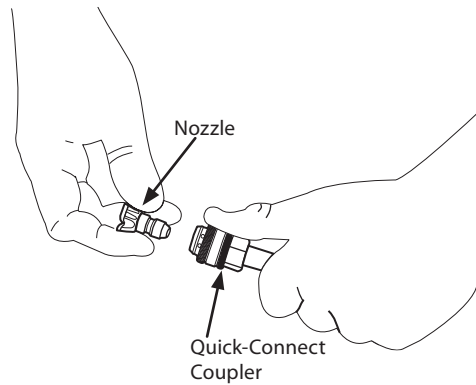

Figure 5-5
2. Release quick-connect coupler and twist nozzle to make sure it is secure in coupler. See Figure 5-5.